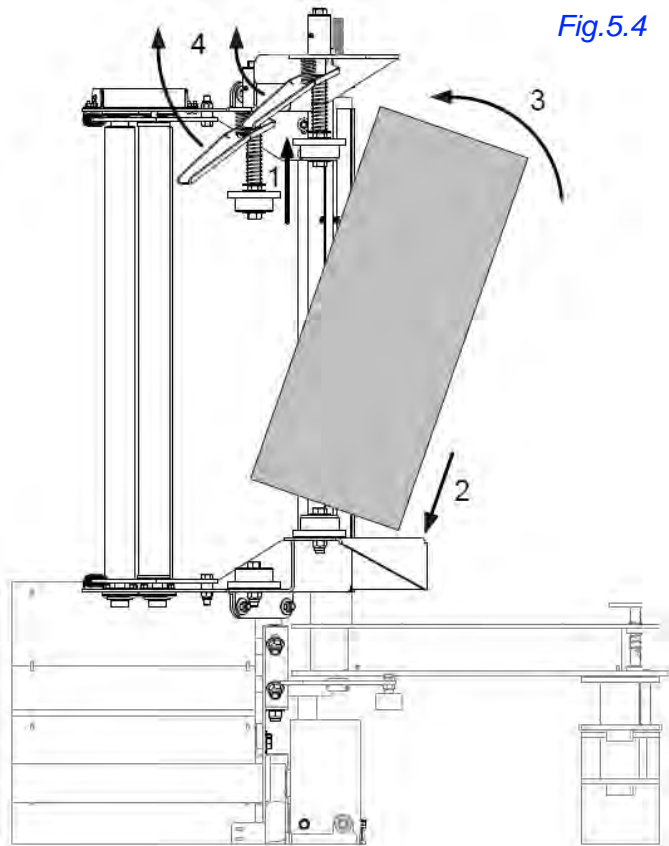

Fig.5.4
4. Lift handles to snap spring loaded plastic holders into tops of plastic rolls, this will hold them in place while in use. (*Fig.5.4*)